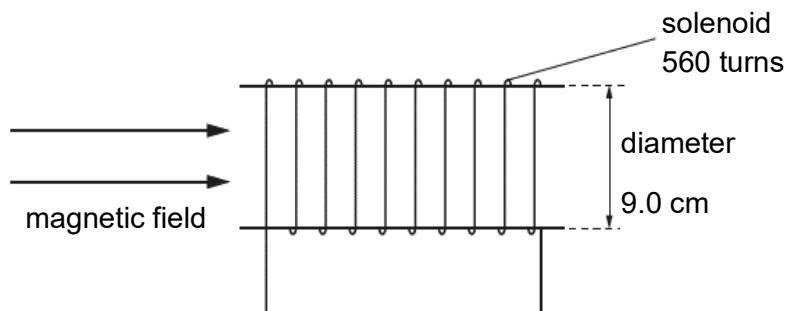

Fig. 7.1
- 7 (a) A solenoid of diameter 9.0 cm and 560 turns is placed in a uniform magnetic field as shown in Fig. 7.1.